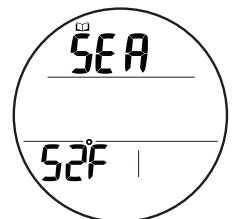

Fig. 44 - LOG DATA 2
**Log Data 2**, information includes (Fig. 44):